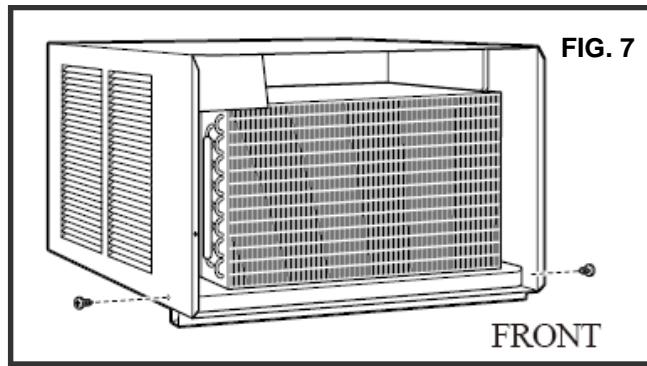

FIG. 7
4. Install top angle side to cabinet rail using the #10 3/8" Pan Head Phillips screws as shown in FIG 7.